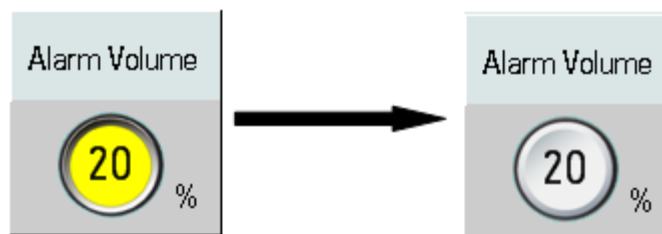

Figure 6-32
Step 2: Turn the encoder knob left or right to adjust the alarm volume, press the encoder knob to confirm when proper value is reached. Background color will return to its original color, as shown in Figure 6-32.